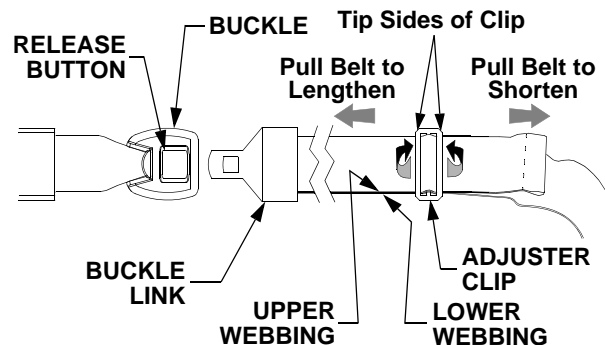

Figure 24
- To lengthen the belt, hold the ends of the adjuster clip and tip upward the side of the clip toward the buckle link. See Figure 24.
- While holding the clip, pull the upper webbing of the belt through the clip toward the buckle link. See Figure 24.